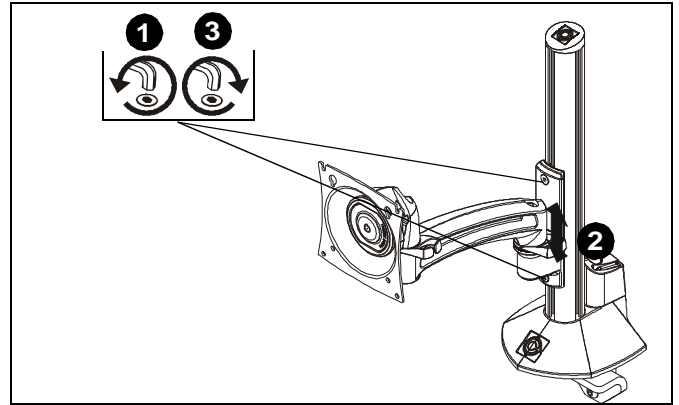

Figure 21
1. Loosen column adjustment knob. (See Figure 21)
2. Adjust height to desired level. (See Figure 21)
3. Tighten column adjustment knob. (See Figure 21)